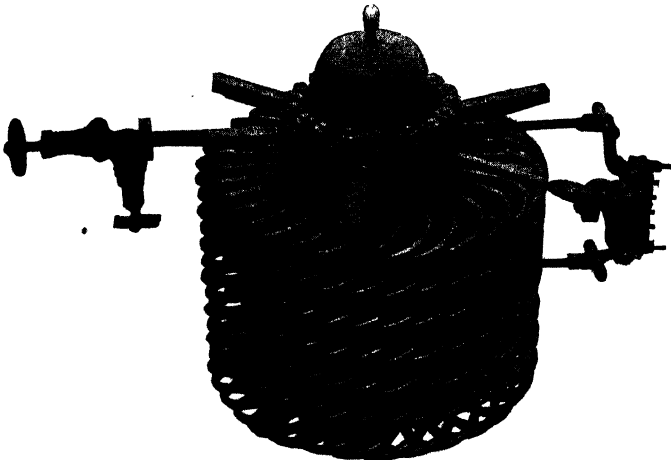

Fig. 44. Water-Tube Boiler Used on National London Busses
***National.*** For the National London busses a water-tube boiler is used, and these stand a great deal of abuse, often being run dry by the carelessness of the drivers. As is shown in Fig. 44, these boilers are